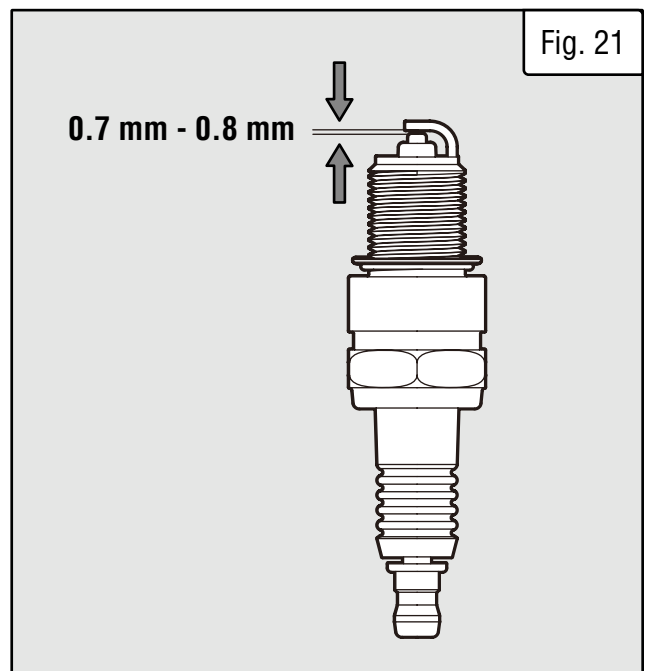

Fig. 21
5. Measure the plug gap with a spark plug gap gauge. The gap should be 0.028 in. - 0.031 in. (0.7mm - 0.8mm) (Fig. 21). Carefully adjust the gap if necessary.